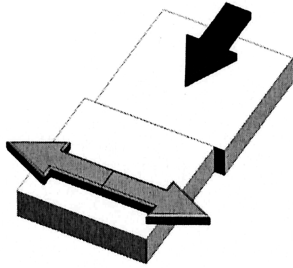

Figure 3
- (c) What is the name of the welding process shown in Figure 3? Describe the welding process briefly. Is filler material used in the welding process?